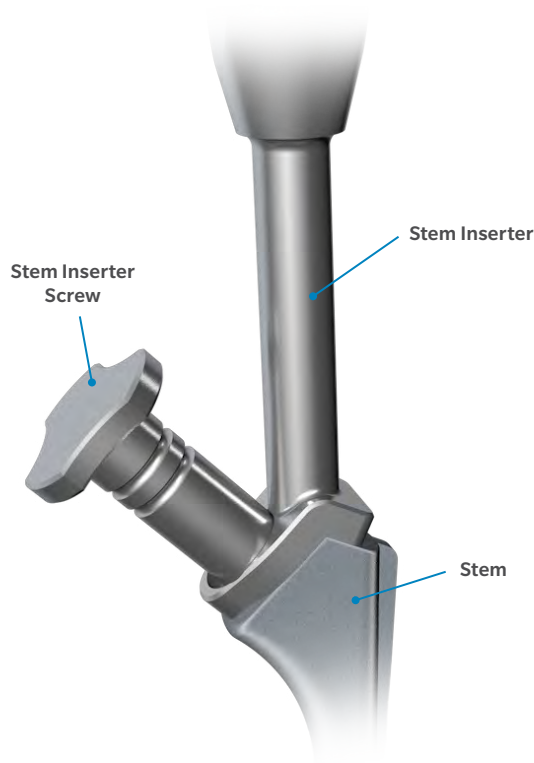

Figure 21
- Connect the appropriate stem with the Stem Inserter (Figure 21).